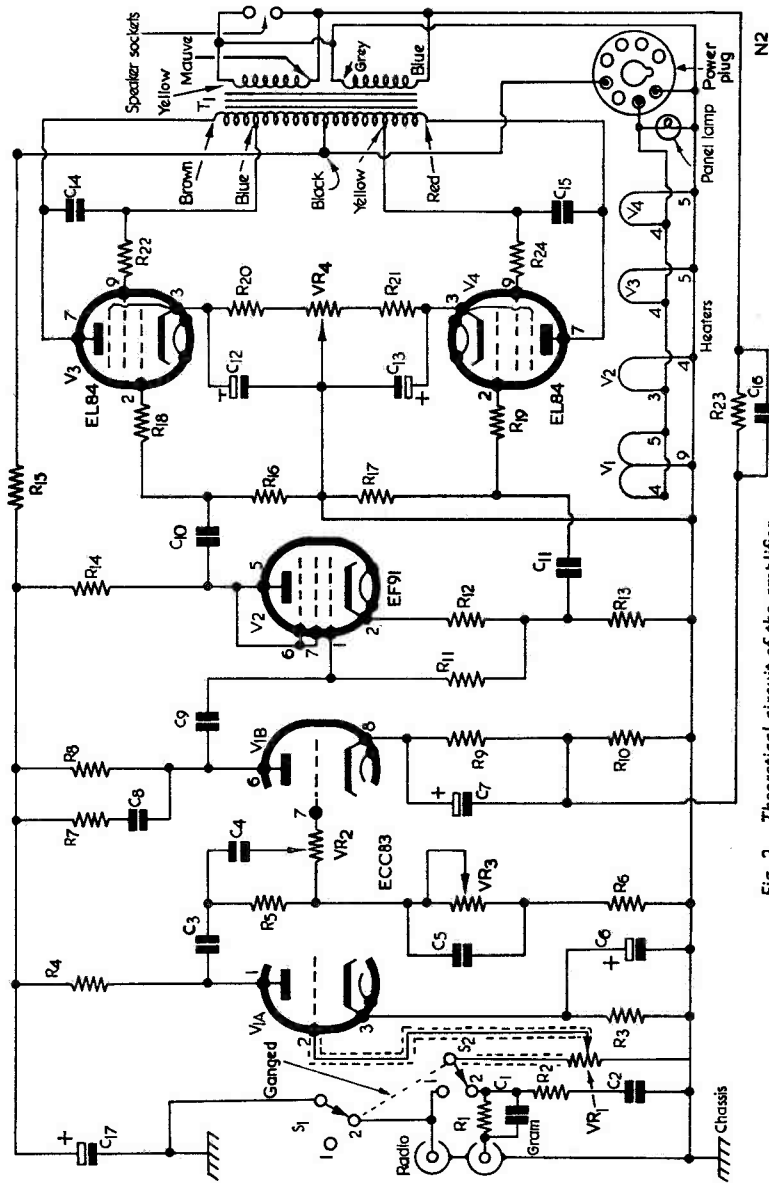

Fig. 2. Theoretical circuit of the amplifier
available power is inadequate for sudden peaks. Here an output in the region of 10 watts is aimed at, and makes necessary a push-pull output stage which is operated under ultra linear conditions. The theoretical circuit diagram is given in Fig. 2. The screen taps for the output valves are made at 43% points in the primary winding and a means of current balancing is provided. Four valves are used and comprise: EL84 (2), EF91(1), ECC83 (1).
Secondary windings may be connected series fashion for an output impedance of 15 $\Omega$  and in parallel for 3.75 $\Omega$  operation. All terminations are flying leads. Fig. 2 shows the secondary windings connected in parallel for 3.75 $\Omega$  output impedance.